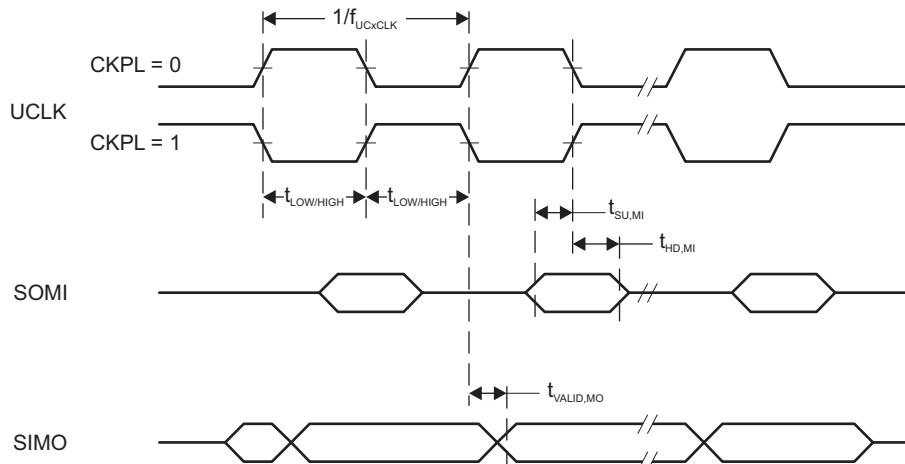
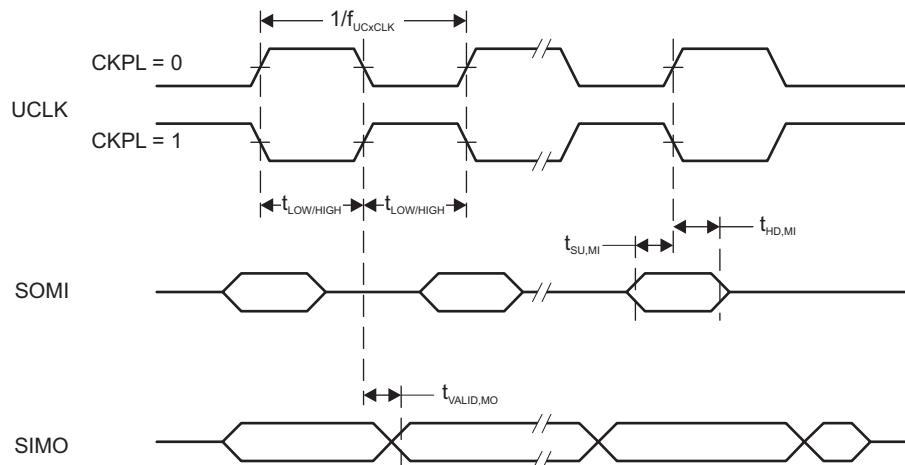

Figure 5-13. SPI Master Mode, $\text{CKPH} = 0$
Figure 5-14. SPI Master Mode, $\text{CKPH} = 1$
(2) Specifies the time to drive the next valid data to the SIMO output after the output changing UCLK clock edge. See the timing diagrams in Figure 5-13 and Figure 5-14.
(3) Specifies how long data on the SIMO output is valid after the output changing UCLK clock edge. Negative values indicate that the data on the SIMO output can become invalid before the output changing clock edge observed on UCLK. See the timing diagrams in Figure 5-13 and Figure 5-14.